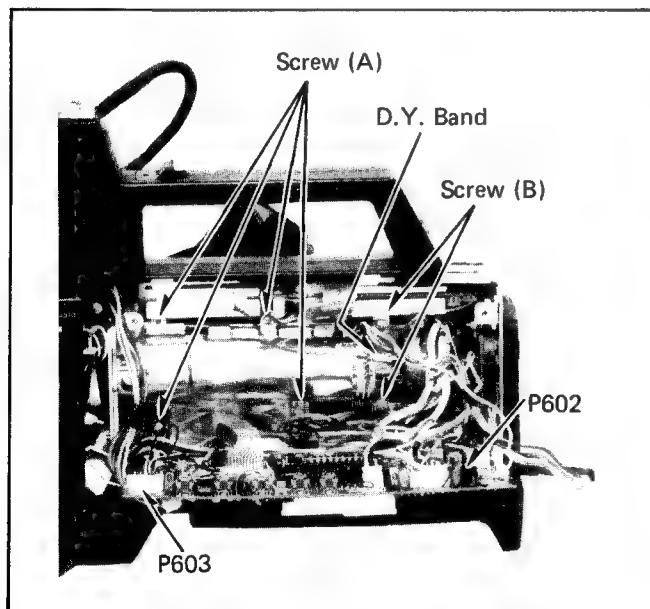

Fig. 2. Right Side View
3-2. Disconnect 2 connectors (P602, P603) (see Fig. 2).
3-3. Unscrew 4 screws (A) and 2 screws (B) (see Fig. 2)